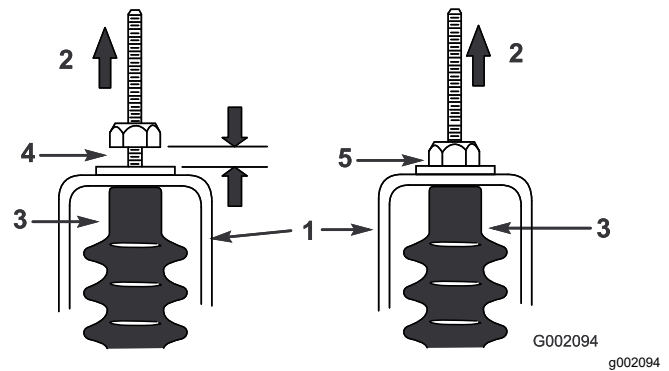

Figure 65
5. Pull up on each shift cable and ensure that there is a 0.76 to 1.52 mm (0.03 to 0.06 inch) between the nut/washer and the neutral bracket (Figure 65).